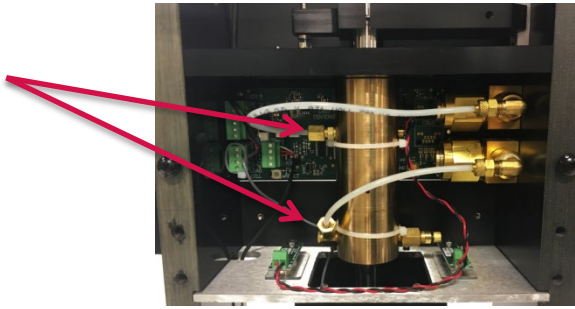

Figure 27: Load Cylinder Air Line Connections
4. Locate the upper and lower air line connections to the load cylinder as shown in Figure 27.